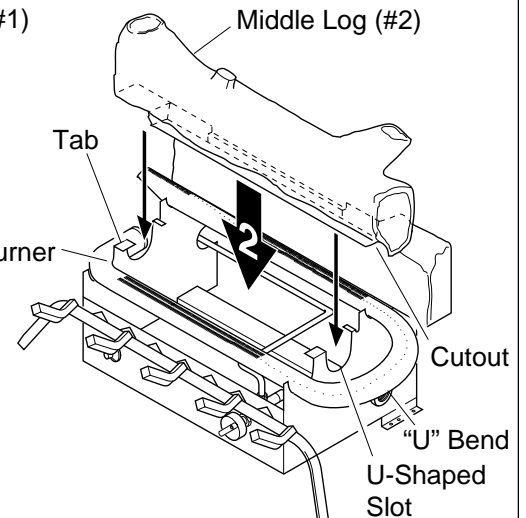

Figure 17 - Installing Middle Log (#2)
2. Place the base of the middle log (#2) in the U-shaped slots of the grate base in front of the back log. The cutout on the right of the middle log should fit over the burner (see Figure 17). Make sure the front of the middle log is resting on the tabs of the grate base and the cutout area is centered over the burner "U" bend.